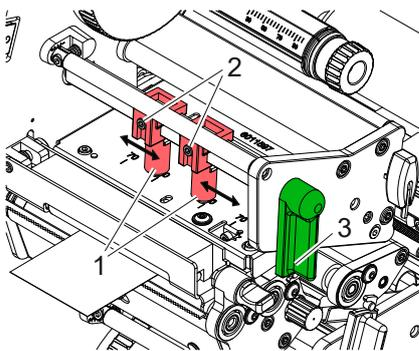

Figure 14 Setting the upper head locking system
2. Pull the detent pin (6). The pressing roller system (1) will swing upwards.
3. Turn lever (8) counterclockwise and lever (10) clockwise to lift both printheads.
4. Move guides (5,9) apart with the knob (7) until the media can pass between them.
5. Guide media strip through the print mechanics as shown in Figure 14 to the pinch roller (2) and place the strip between the guides (5,9).
6. * Devices with cutter: Slide the knob (3) to the left to fold down the cutter unit (4). Guide the media through the cutter blades and fold up and lock the cutter.
7. Move the guides against the edges of the media by turning the knob (7).
9. Pull the detent pin (6). Push the pressing roller system (1) downwards and lock it with the detent pin.